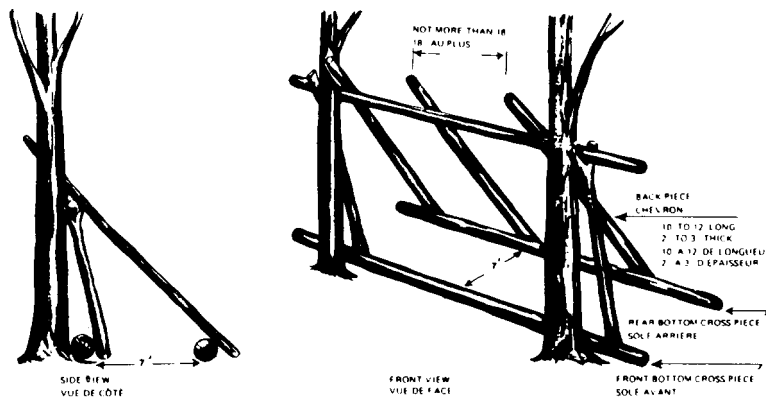

Figure 3-8 Single Lean-to - Stage 2
- c. Place in the front bottom crosspiece. This is the same size just so it spans the distance between the two uprights. It is placed on the roof side of the lean-to and its purpose is to prevent the sleeping bags from sliding into the fire as well as holding the boughs used for insulation in place (see Figure 3-8).
- d. Place in the bottom rear crosspiece. This is the same size as the front crosspiece and is placed about seven feet from the front bottom crosspiece. Its job is to help raise the back of the lean-to roof and also hold the boughs in place (see Figure 3-8).
- e. Place on the back pieces. These should be two to three inches thick at the butt end and ten to twelve feet long. The butt ends are set on the ground and resting against the rear bottom crosspiece, the top ends are resting on top of the top crosspiece and are spaced no more than eighteen inches apart (see Figure 3-8).
- f. Cover the roof of the lean-to. This is done by shingling boughs on it from the bottom and building up. The thickness of the roof should be at least six inches, or thick enough for a man to walk on as the roof is being built up (see Figure 3-8).